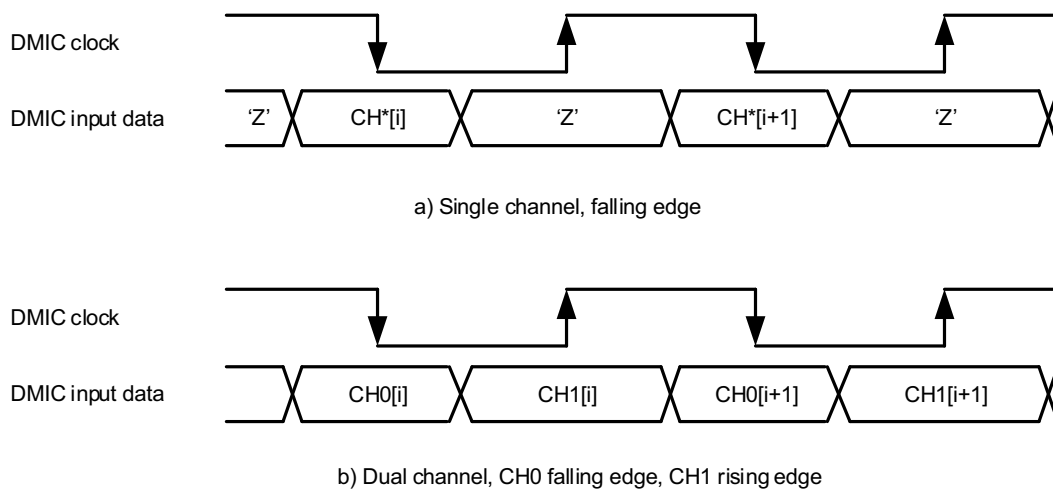

Figure 37. DMIC Timing
- The `AUDIO_DMIC*_CFG_CLK_EDGE` bit, which controls whether the data from the DMIC input is sampled on the rising or falling edge of the DMIC input clock. Refer to Figure 37 for detailed timing.